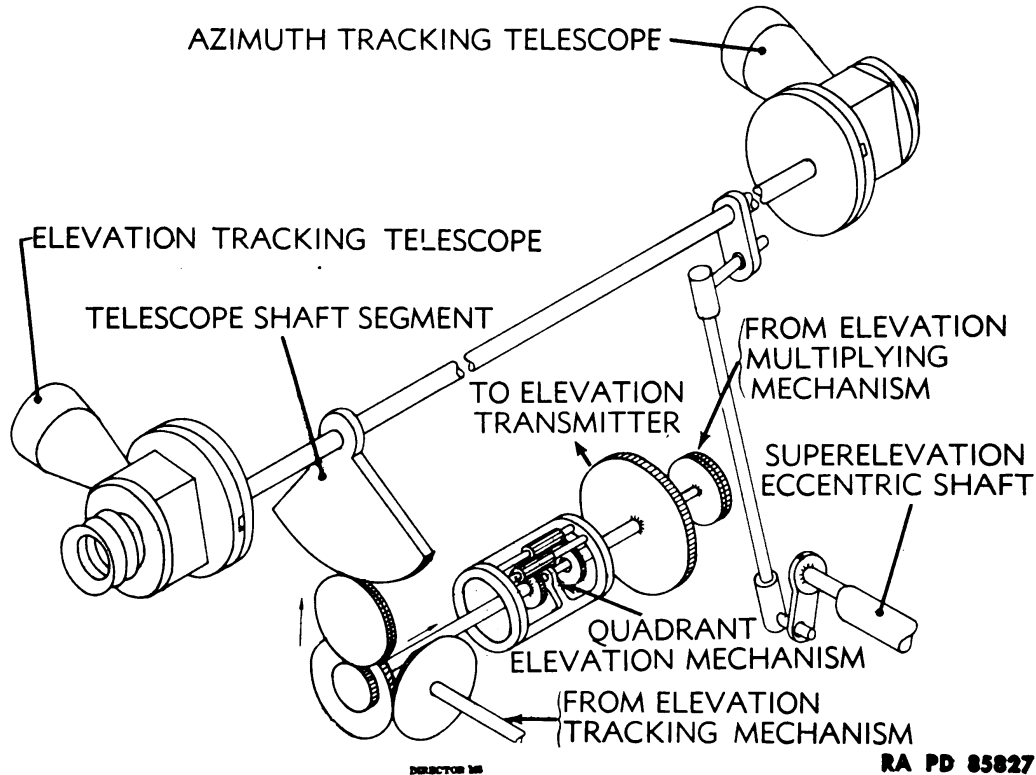

Figure 42 – Quadrant Elevation Mechanism, Telescope Shaft, and Super-elevation Eccentric Connection – Schematic Diagram
put, known as the quadrant (firing) elevation, goes to the elevation transmitter assembly. Figure 42 shows the schematic relation of this unit to the others.
(1) The transmitter assembly includes the synchronous transmitter or transmitters which send the quadrant elevation to the gun, a gear train, and two elevation dials.
(2) Director M5 employs only one (fine) elevation transmitter in elevation transmitter assembly D43824; however, a coarse elevation dial is provided which is geared and graduated to show approximately 100 degrees elevation in one revolution.
(3) Director M6 uses elevation transmitter assembly D43834 which is identical with assembly D43824 except for the transmitter voltage and frequency.
(4) Director M5A1. Elevation transmitter assembly D83539 employs a coarse and a fine transmitter, with a dial for each. It is identical with the azimuth transmitter assembly except for the coarse dial, which is graduated only in the 110-degree sector normally used. On older models of the Director M5A1, the coarse elevation transmitter dial is identical with the coarse azimuth dial.
i. The Telescope Shaft Assembly and Open Sight (figs. 42 and 45). The telescope shaft assembly includes the flanges on which the